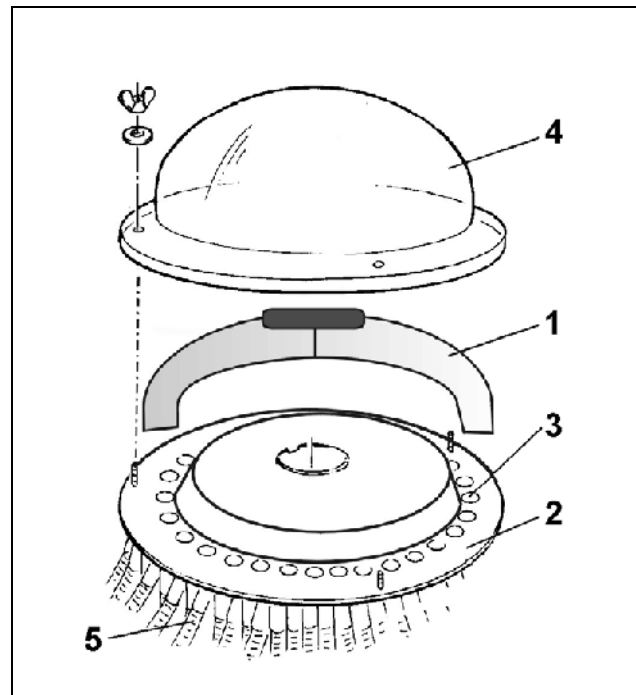
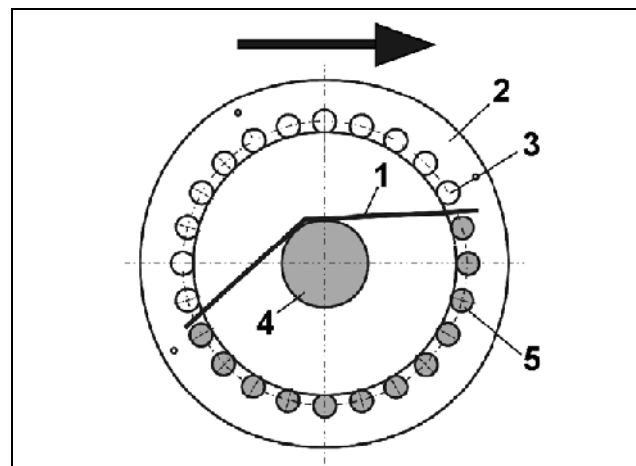

Fig. 68
Fig. 69
With the insert (Fig. 68/1) for the half-side shutting off of the outlets in the distributor head the seed flow is guided to half of the outlets (Fig. 68/3) and thus to half of the coulters. This way, at random, the seed delivery to the coulters can be interrupted on the right or left hand implement side and you can sow with the other implement half.
- Remove distributor hood (Fig. 68/4).
- set the insert (Fig. 68/1 or Fig. 69/1) on to the distributor plate (Fig. 68/2 or Fig. 69/2) that the desired outlets will be shut off by the insert.
- In top view (see Fig. 69)
- shut off, not hatched outlets (Fig. 69/3) are on the side behind the corrugated tube (Fig. 69/4)
- open, hatched outlets (Fig. 69/5) are on the side in front of the corrugated tube (Fig. 69/4).
- In any case check the routing of the seed guide tubes (Fig. 68/5) to ensure that the insert shuts off the seed flow to the correct coulters.
- Mark the position of the insert with a suited pencil on the distributor plate (Fig. 69/2) so that you may quickly find the correct position of the insert on the distributor plate later on.
- Fix the distributor hood (Fig. 68/4) on the distributor head. When fixing the distributor hood the insert (Fig. 68/1) is clamped.